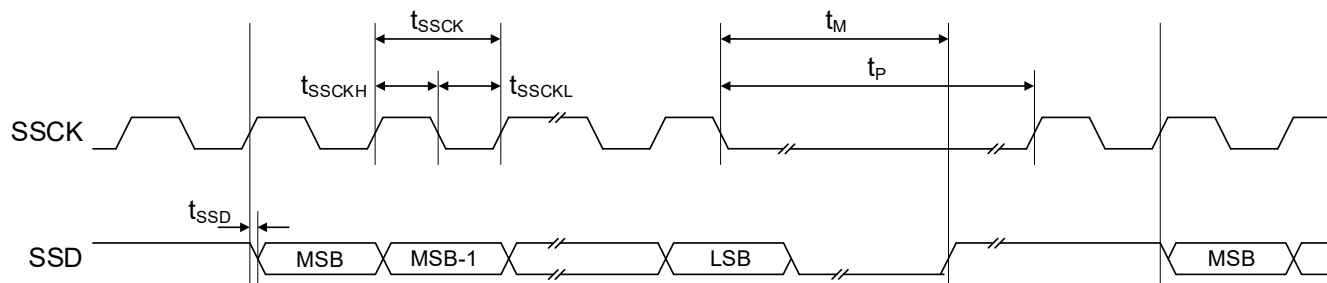

Figure 34: SSI Mode B
- In Mode B, SSCK is held low when communication is idle (Figure 34)